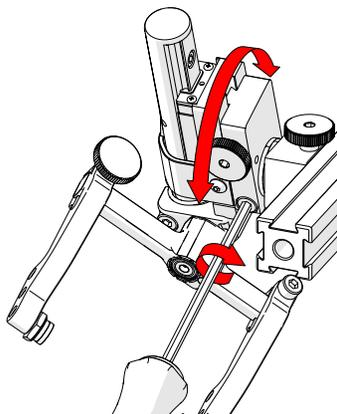

Fig. 57 - Rotate to position
3. Rotate the main body of the probe holder until it is at the desired angle (*Fig. 57*).
4. Tighten the longitudinal adjustment screw (*Fig. 57*).